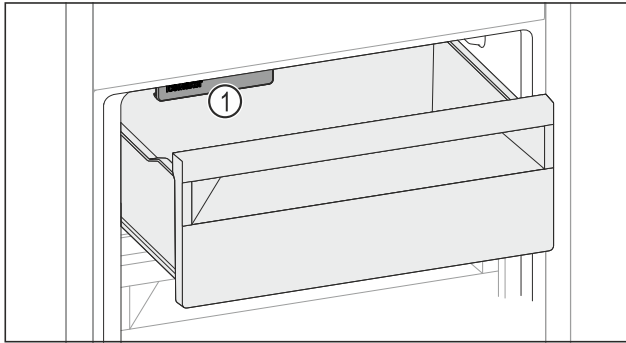

Fig. 160
- ▶ Watch out for the IceMaker Fig. 160 (1).